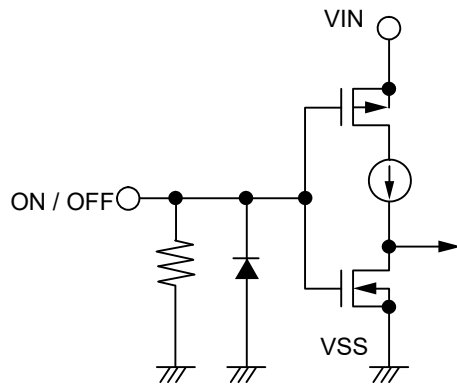
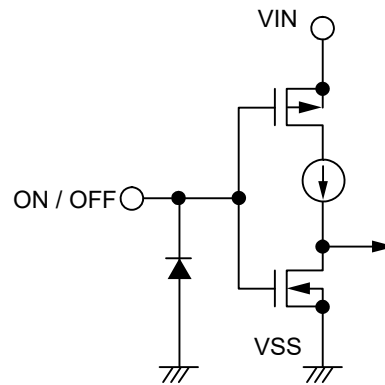

Figure 11 S-19246xxxH Series E / G type
Figure 12 S-19246xxxH Series F / H type
Note that the current consumption increases when a voltage of 0.6 V to $V_{IN} - 0.3$ V is applied to the ON / OFF pin. The ON / OFF pin is configured as shown in **Figure 11** and **Figure 12**.
*2. Note that the IC's current consumption increases as much as current flows into the pull-down resistor when the ON / OFF pin is connected to the VIN pin and the S-19246xxxH Series E / G type is operating (refer to **Figure 11**).